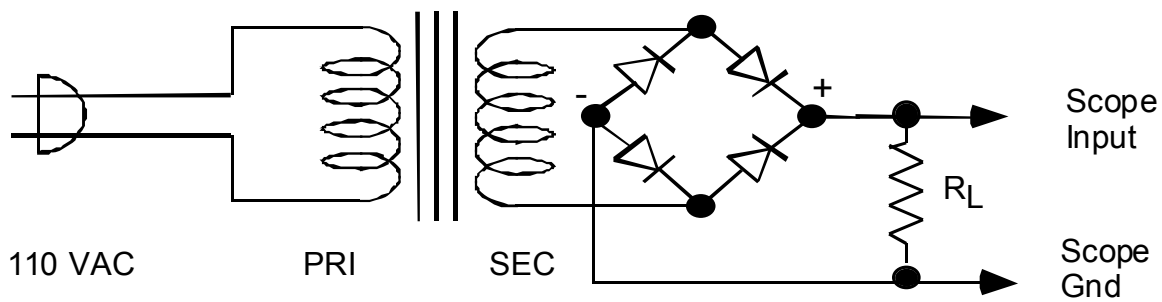
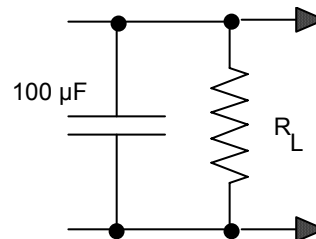

Figure 3.3. Full-wave rectifier bridge circuit. The input is 110 VAC line voltage.
Figure 3-4 Filter Capacitor
- ➋ Measure the output waveform of the full-wave *bridge circuit* in Figure 3-3. Do not attempt to measure the input waveform. Use a 1 k Ω load resistor.
☛ Starting with the full wave rectifier circuits in Figure 3-3, add a capacitor $C = 100 \mu\text{F}$ across the load resistor as shown in Figure 3-4. Note that capacitors of such a large value are polarized: one of the capacitor's two leads is marked – or +.